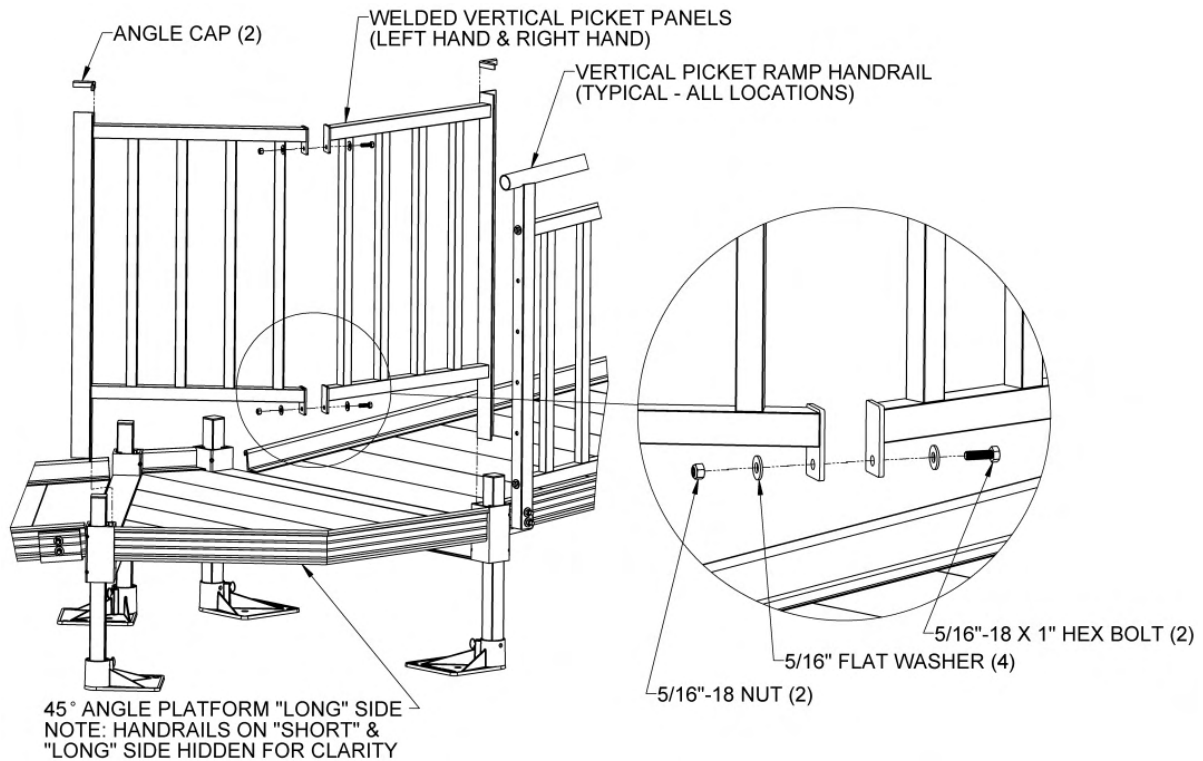

FIG. 4.17
- 4.6.18. For the “long” side of the 45-degree Angle Platform, there are two welded Vertical Picket panels which are inserted into the corner pockets then bolted together. Left hand and right hand refer to looking at the “long” side from the “short” side. Insert both into their respective corner pockets and align the bottom of the posts with the bottom of the corner pockets. Bolt the two sections together using 5/16”-18 x 1” hex bolts, 5/16” flat washers and 5/16”-18 nuts as shown (FIG 4.17).